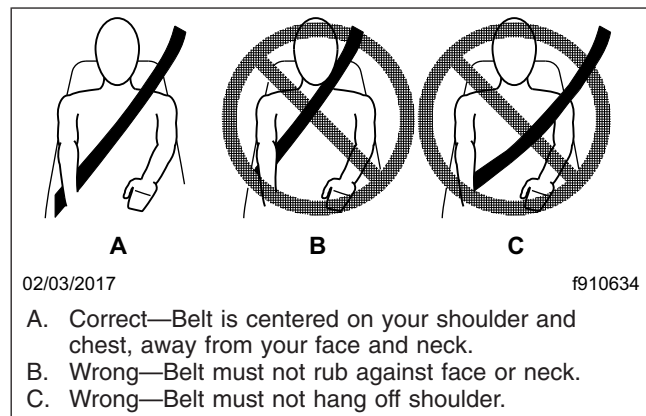

Fig. 6.11, Proper Shoulder Strap Fit
- Position the shoulder strap diagonally across your chest with the adjustable D-loop bracket (if equipped). The shoulder strap must be centered on your shoulder and chest, away from your face and neck. See Fig. 6.11. If desired, engage the Komfort Latch or Sliding Komfort Latch as follows.
5. Position the shoulder strap diagonally across your chest with the adjustable D-loop bracket (if equipped). The shoulder strap must be centered on your shoulder and chest, away from your face and neck. See Fig. 6.11.